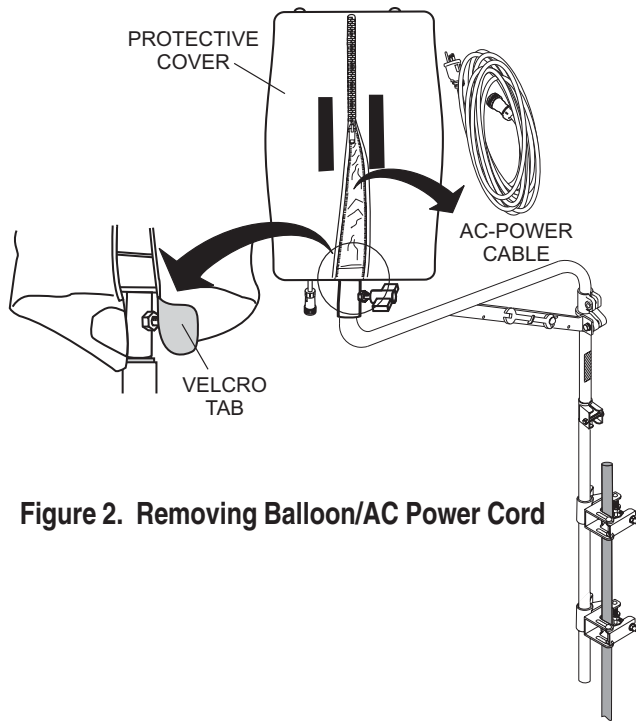

Figure 2. Removing Balloon/AC Power Cord
1. Expose the balloon by pulling down on the velcro tab and unzipping the protective cover as shown in Figure 2. Also remove the AC power cord at this time.